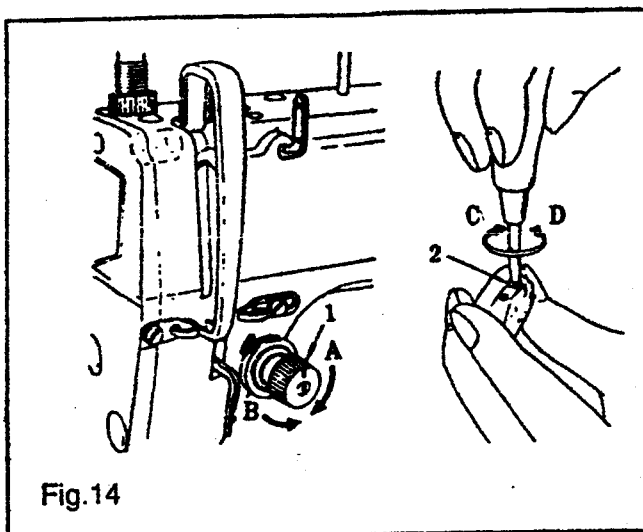

Fig.14
- 1) Turn stitch length dial ① in the direction of the arrow, and align the desired number to marker dot A on the machine arm.
- 3) When you want to decrease the stitch length, turn stitch length dial ① while pressing feed lever ② in the direction of the arrow.
8. THREAD TENSION (Fig. 14)